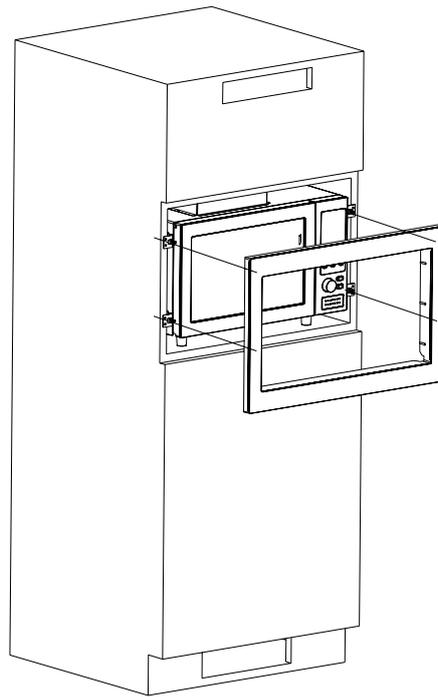

fig.4
a) Intake and exhaust port on back surface, as shown in Fig.4.
d) Secure ornamental frame to holders,as shown in Fig.4.